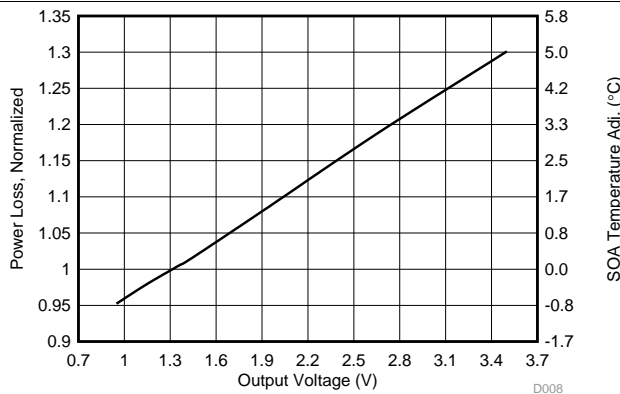

Figure 7. Normalized Power Loss vs Output Voltage
- Normalized power loss for output voltage  $\approx 1.01$  (Figure 7)
- SOA adjustment for output voltage  $\approx 0.17^\circ\text{C}$  (Figure 7)